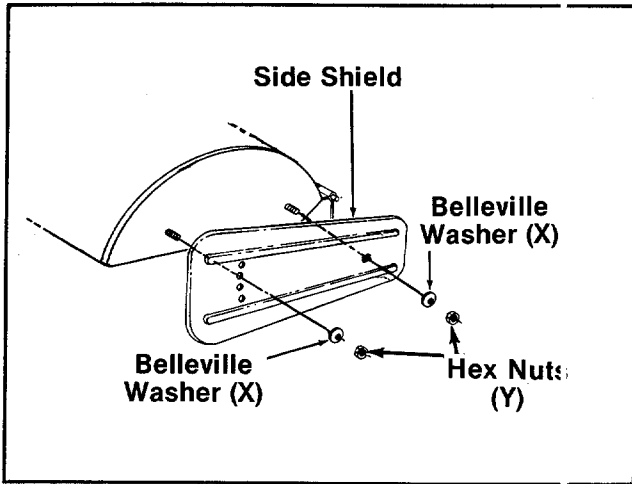

FIGURE 7.
← Assemble the side shields to the tine shield as shown in figure 7, using belleville washers (X) (cupped side against the side shields) and hex nuts (Y). Side shields will be adjusted up or down as the depth bar is adjusted, as described in the Operation section.